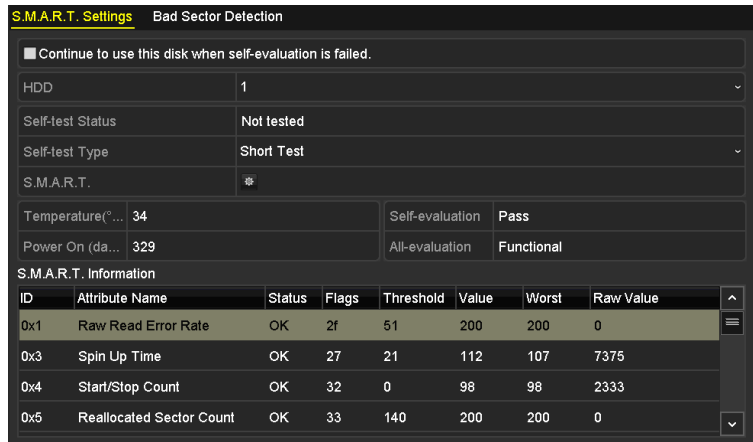

Figure 10-20 S.M.A.R.T Settings Interface
Step 3 Select the HDD to view its S.M.A.R.T. information list, as shown in Figure 10-20.